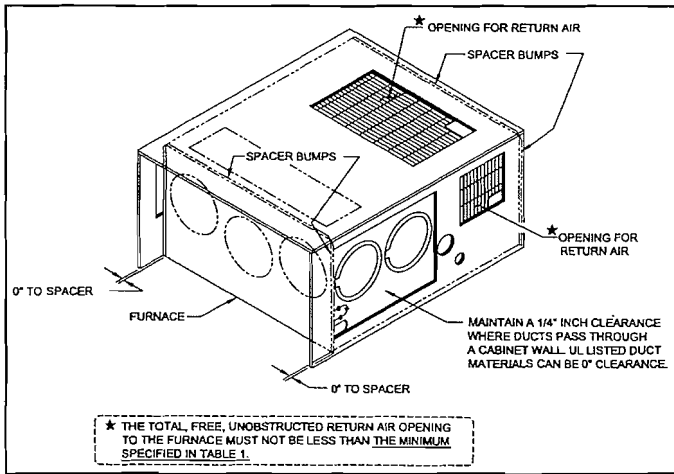

Figure 3
E. Maintain a minimum of 1/4" clearance where ducts pass through any combustible construction, such as coach cabinetry. (See Figure 3.) NOTE: UL listed duct materials can be 0" clearance.